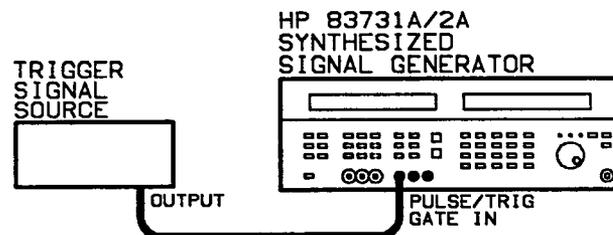

Figure 3-4. Externally Triggered Pulse Modulation Equipment Setup
1. Connect the equipment as shown in Figure 3-4:
To program the Synthesizer to generate the signal explained above, connect the equipment as shown in Figure 3-4, set the trigger signal source for the desired triggering characteristics, and then run the following program.